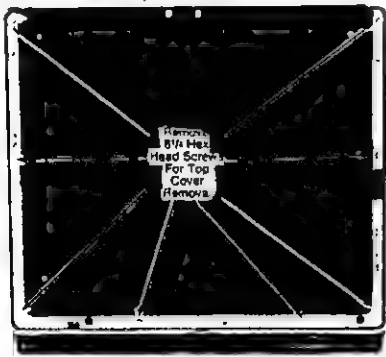

Fig. 2-2. — Top Cover Removal
- 2. Remove 8 each 1/4" hex head screws (Fig. 2-2) around outer edge of cabinet bottom.